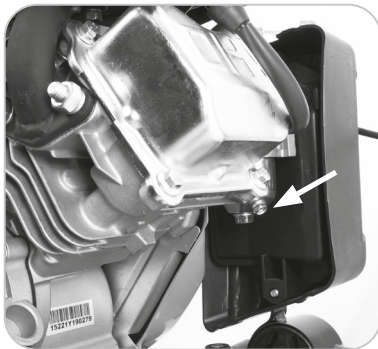

Fig. 20
- A drain tap can be found underneath the carburettor float bowl. Loosen this tap to allow the fuel to drain from the machine. **(Fig. 20)**
1. Completely drain the machine of fuel from the fuel tank and carburetor. **(Fig. 20)**